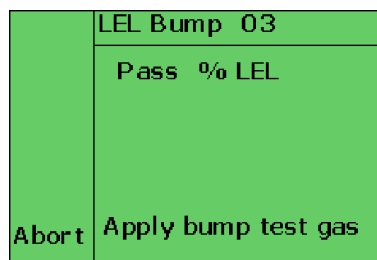

Figure 76: LEL Bump - Gas Detected
4. Once the measured gas concentration reach the LEL Bump Test limits, the countdown timer automatically resets to 5 seconds and **Pass** appear on the screen (as shown in Figure 76: LEL Bump - Gas Detected). Keep the gas connected for the full 5 seconds.